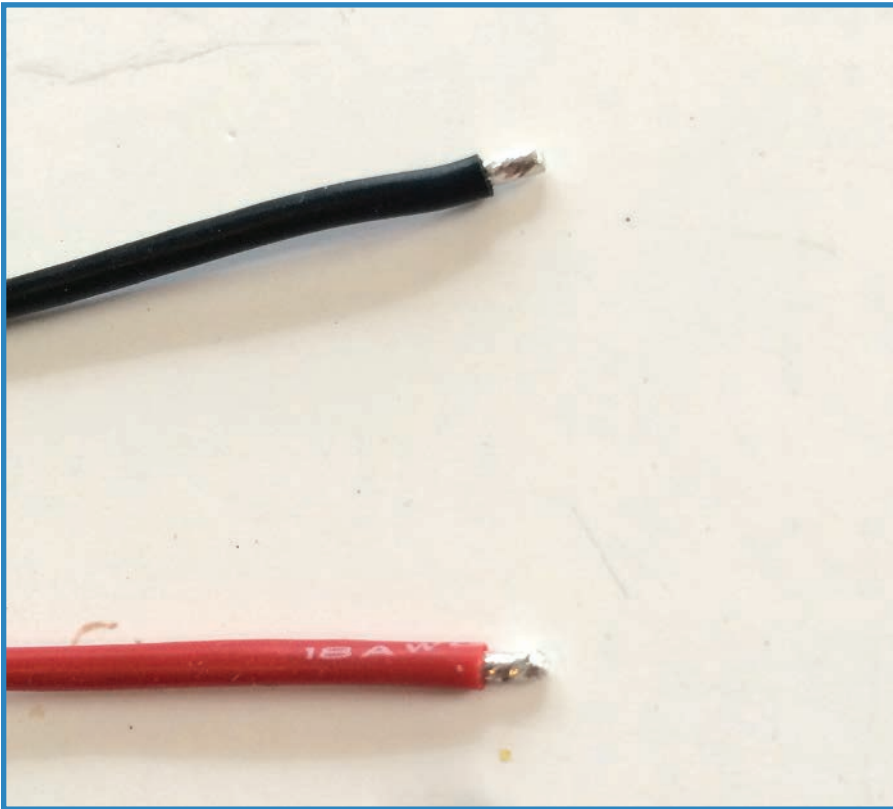

FIGURE 10.7 Tin every wire that will have a bullet connector.
- 3. Tin the wire ends.** Tinning means to coat with solder. This helps the component stick to another tinned component. First, twist up the wire strands (if any) and use a soldering iron to heat up the wire end. Then coat it in solder, as shown in Figure 10.7. Do this for every wire that will be taking a bullet connector. Note that some components, such as the Turing Plush ESCs I use in this project, come pre-tinned as well as pre-stripped.